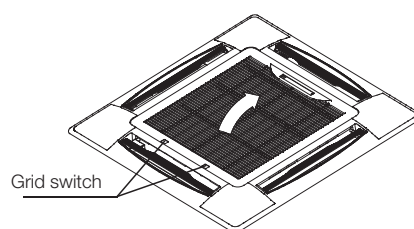

Fig.4-12
- 1) Slide two grill switches toward the middle at the same time, and then pull them up. (Refer to Fig.4-12)